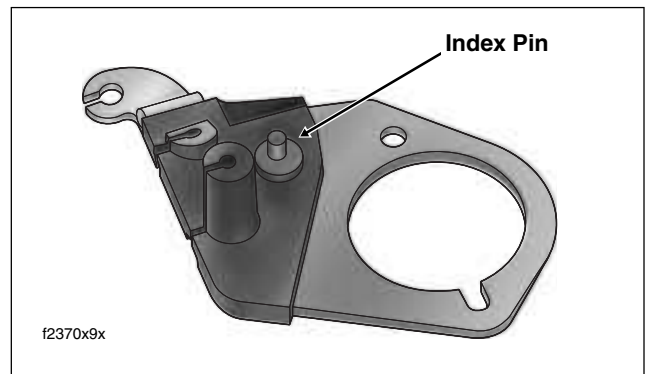

Figure 9-36. Throttle Cable/IAC Bracket
3. Insert index pin at bottom of throttle cable/IAC bracket into hole in boss at top of induction module. See Figure 9-36.